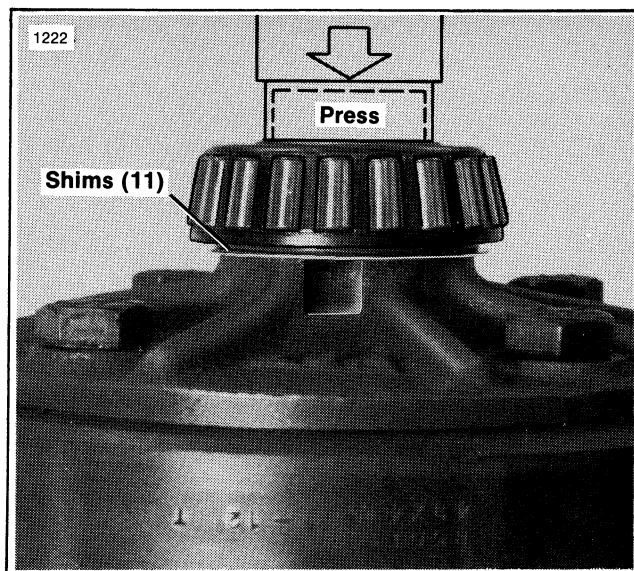

Figure 3-22. Pressing On Differential Bearing
5. When pressing on new differential bearings (8), original shims (11) may be reused in their original location if they were not damaged during disassembly. If new shims are used, be sure they are the same thickness as originals. Press on inner race of bearing only (Figure 3-22).